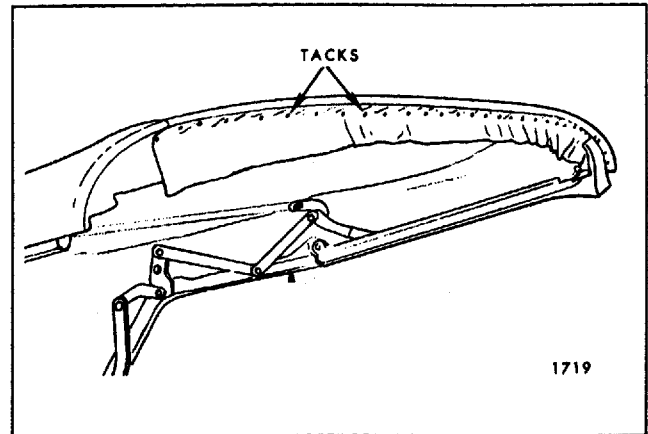

Fig. 6-29—Installation Of Top Material To Front Roof Rail
49. Unlock top from windshield header and apply nitrile cement or neoprene-type weatherstrip adhesive to tacking area of front roof rail and corresponding surface of top material. Pull top trim material slightly forward so that pencil marks are on underside of front edge of front roof rail. Fasten top trim to cemented area and stay tack trim to rail (Fig. 6-29).